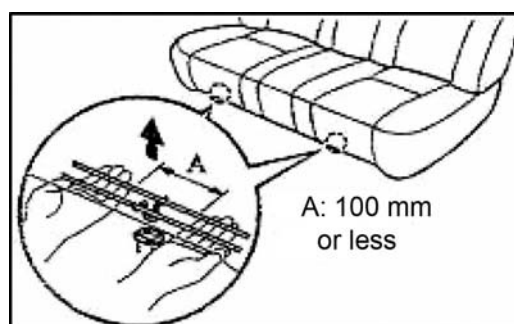

Fig. 7-10
(1) Remove the head restraint.
(2) Seat cushion assembly, pull upwardly the two bulging parts in the front of the seat cushion and remove them, as shown in Fig. 7-10.
(3) Remove the right side back assembly in accordance with the process of the left side back, mentioned above.
(4) Remove the rear seat cushion assembly, referring to the Fig. 7-10.